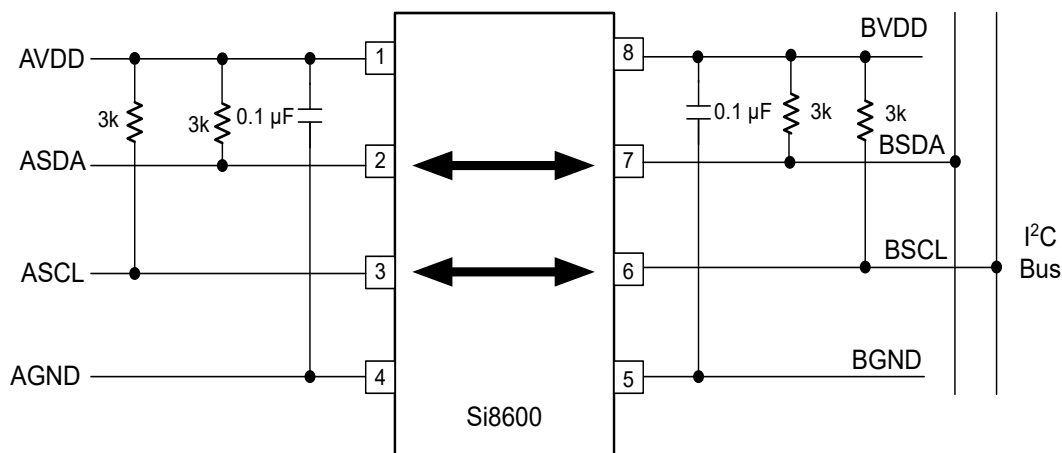

Figure 3.2. Typical Si8600 Application Diagram
3.0 V < VDD < 5.5 V. TA = –40 to +125 °C. Typical specs at 25 °C (See Figure 5.2 Simplified Timing Test Diagram on page 18 and Figure 3.2 Typical Si8600 Application Diagram on page 8 for test diagrams.)